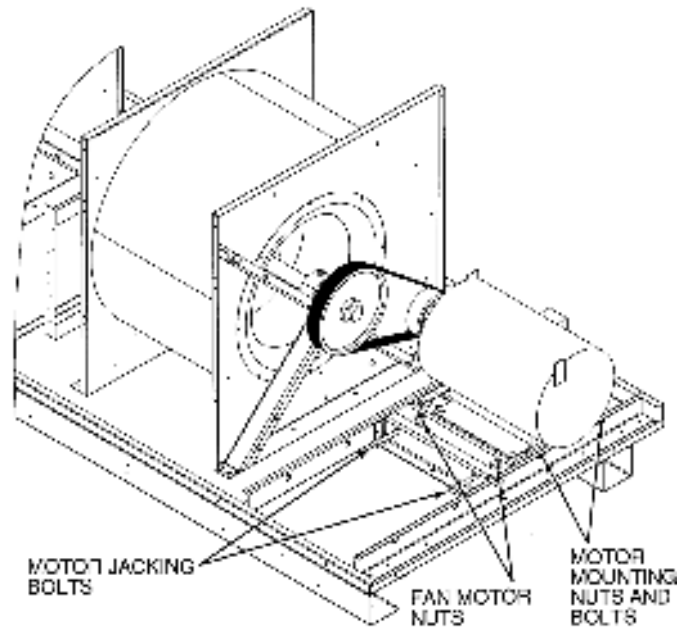

Fig. 11 — Belt Tension Adjustment
2. Loosen motor mounting nuts and bolts. See Fig.11 for nut and bolt locations and installation example.
2. Loosen motor mounting nuts and bolts. Refer to Fig. 11 for nut and bolt locations and installation example.